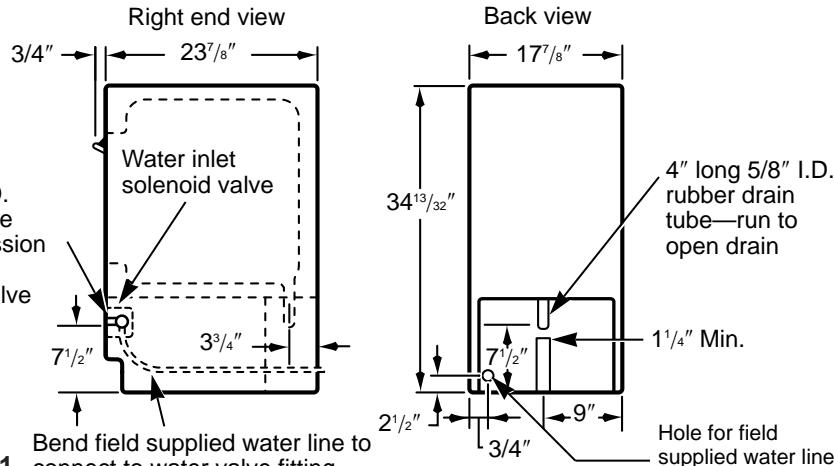

Figure 1 Bend field supplied water line to connect to water valve fitting
- Position the tubing so it can enter the access hole located in the right-hand rear of the icemaker cabinet. The tubing should extend beyond the cabinet front so when the icemaker is pushed back in position it will reach the water inlet location in the front. See Figure 1.